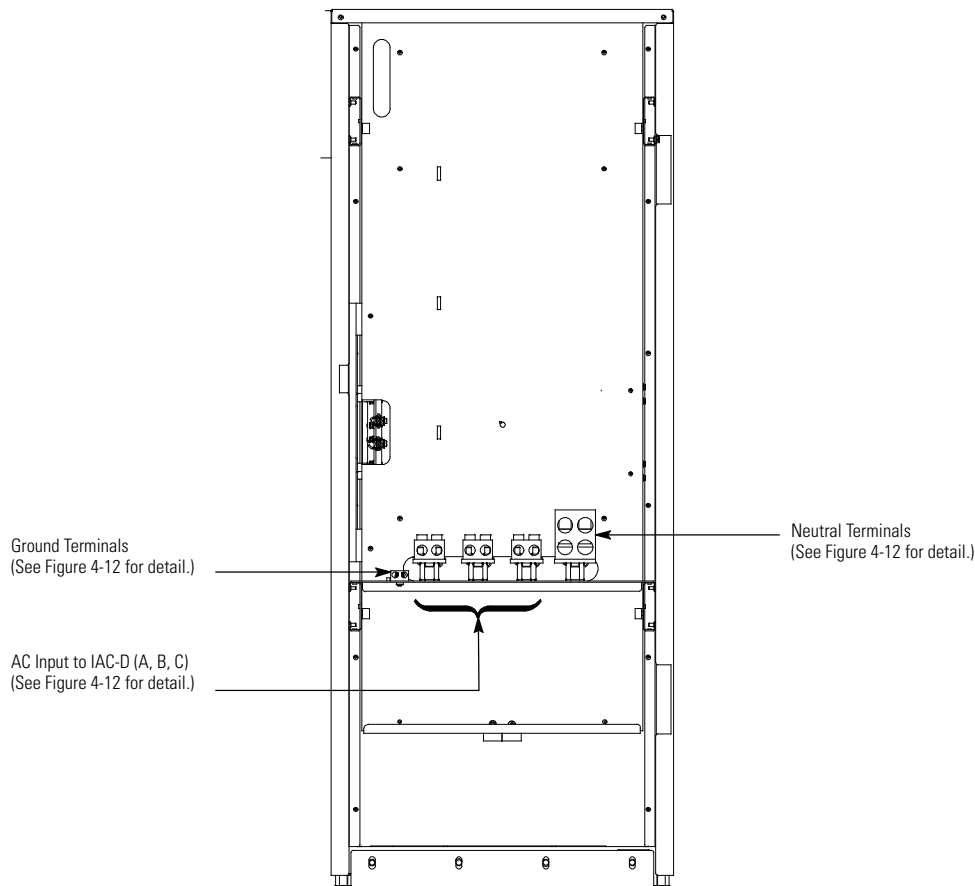

Figure 4-11. Input Power Terminal Locations – 93E 30IAC-D
5. Route the IAC-D input cables (phase A, B, and C, Neutral, and Ground) through the conduit on the back of the IAC-D to the UPS, IAC-T, IAC-B, or IAC-TB output terminals. See Figure 4-11 or Figure 4-13 for IAC-D wiring access information and terminal locations. See paragraph 3.2.2, Table 3-3, and Table 3-4 for IAC-D wiring and termination requirements. Refer to the applicable Eaton 93E UPS or 93E Integrated Accessory Cabinet-Tie and Bypass Installation and Operation manual listed in paragraph 1.7 for their respective terminal locations and termination requirements.
11. Route the IAC-D input cables (phase A, B, and C, Neutral, and Ground) through the power terminal cover base wiring channels (see Figure 4-15) from the IAC-D to the UPS, IAC-T, IAC-B, or IAC-TB output terminals. See Figure 4-11 or Figure 4-13 for IAC-D wiring access information and terminal locations. See paragraph 3.2.2, Table 3-3, and Table 3-4 for IAC-D wiring and termination requirements. Refer to the applicable Eaton 93E UPS or 93E Integrated Accessory Cabinet-Tie and Bypass Installation and Operation manual listed in paragraph 1.7 for their respective terminal locations and termination requirements.